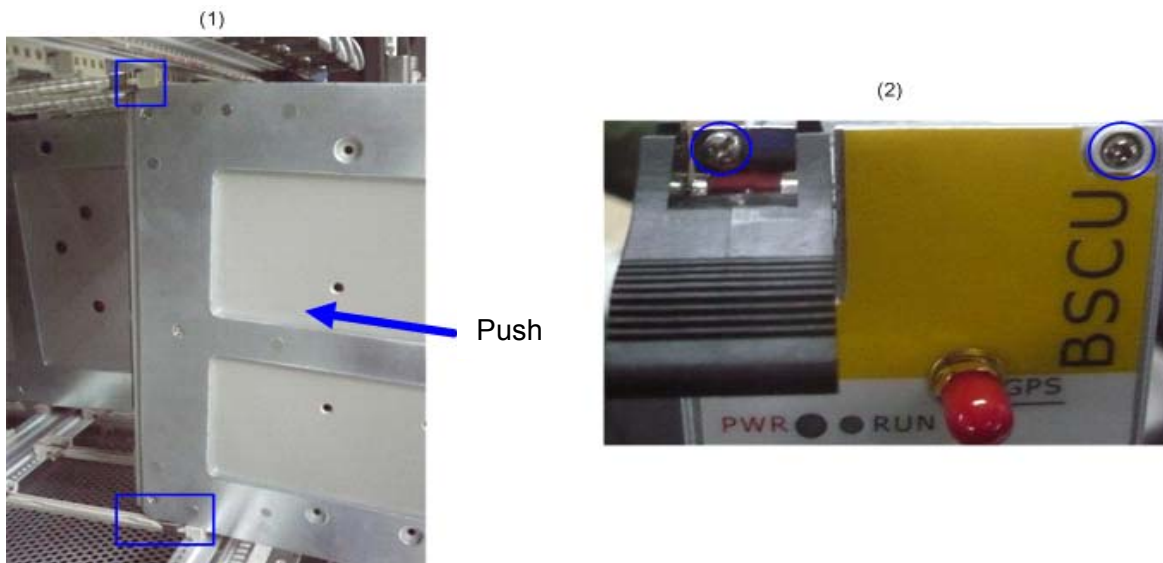

Figure 3-11 Installing the BSCU
2. Slide the BSCU along the guide rails smoothly as shown in Figure 3-11 \(1\) .
4. Tighten the two screws on the two ejectors and the board respectively as shown in Figure 3-11